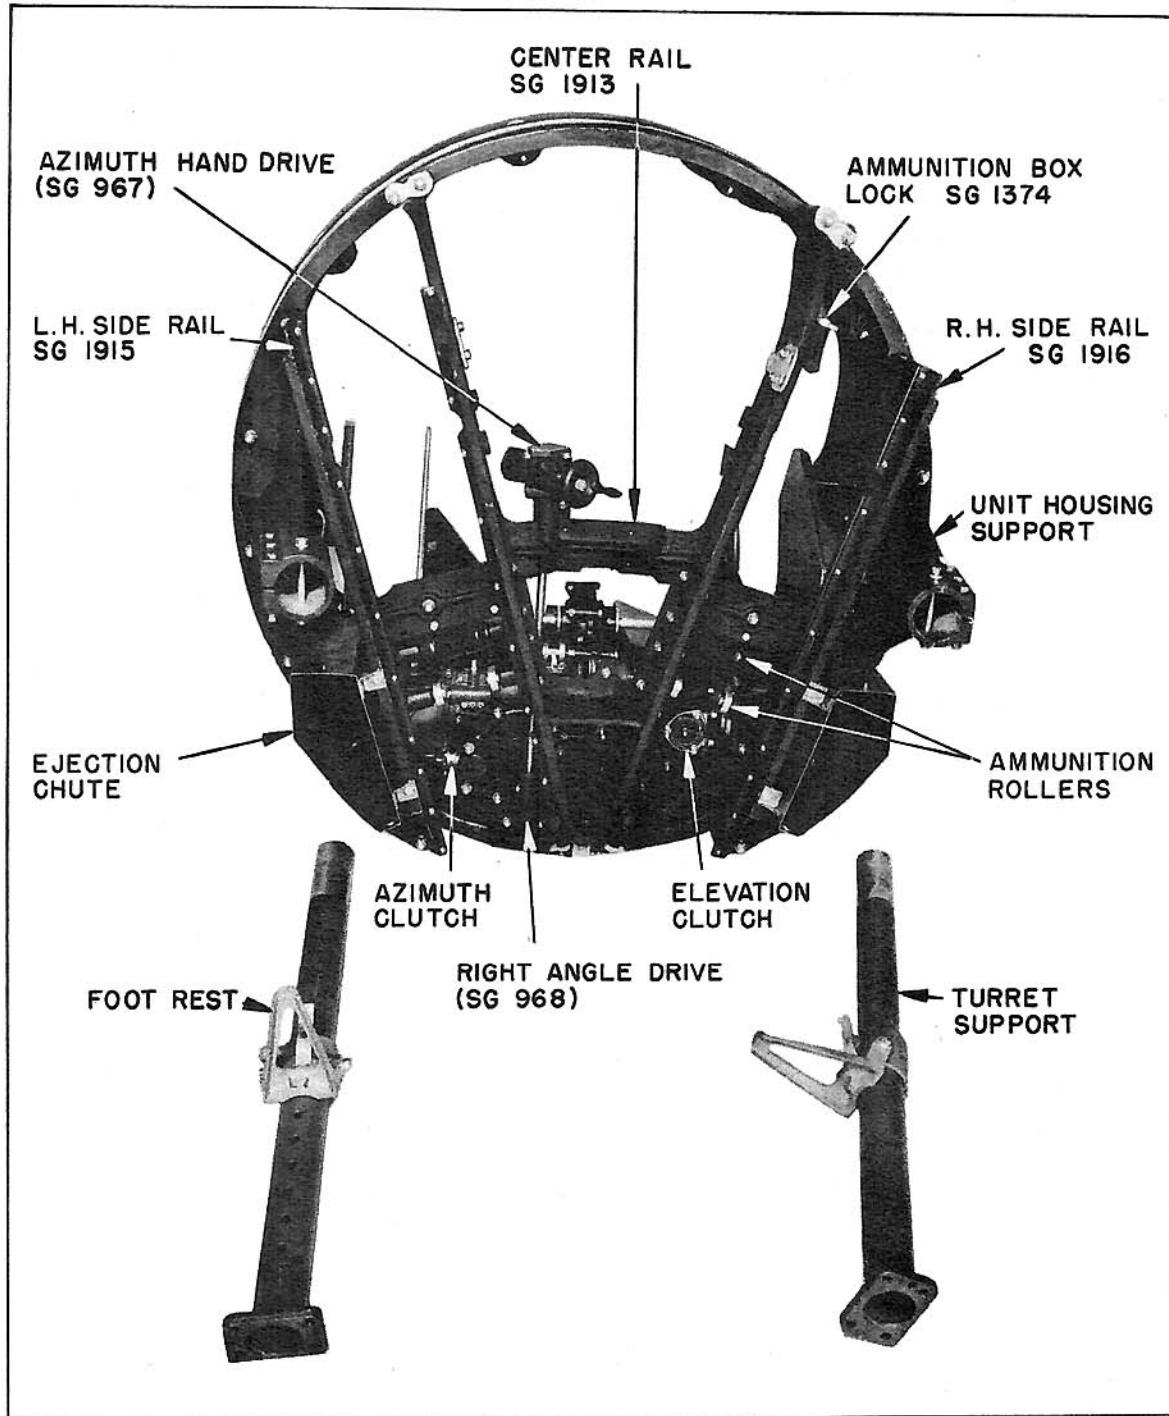

FIGURE 36
(2) Unit Housing Support. - (a) Fasten unit housing support to unit housing by means of 4 bolts (3/8"-24, 3-7/8") and 1 bolt (3/8"-24, 1-7/8"), with 2 washers and an elastic stop nut on each bolt. (See Figure 36.)
(4) Side Rails. - (a) Use 4 bolts (3/8"-24, 3-7/8") to hold rear end of left and right side rails (SG 1915 and SG 1916) and unit housing support to the unit housing. (See Figure 36.)
(c) Use 2 bolts (3/8"-24, 5-3/8") to hold left side rail to unit housing. (See Figure 36.)
(d) Slip foot rests (SG 943) on the column supports (SG 1073). (See Figures 36 and 46.)
(2) Lead Wires. - (a) Insert lead wires from the main switch and junction box through left column support. (See Figure 36.)
(3) Column Supports. - (a) Insert left and right column supports into left and right housing supports. If necessary, separate split bearing to do this. (See Figure 36.)